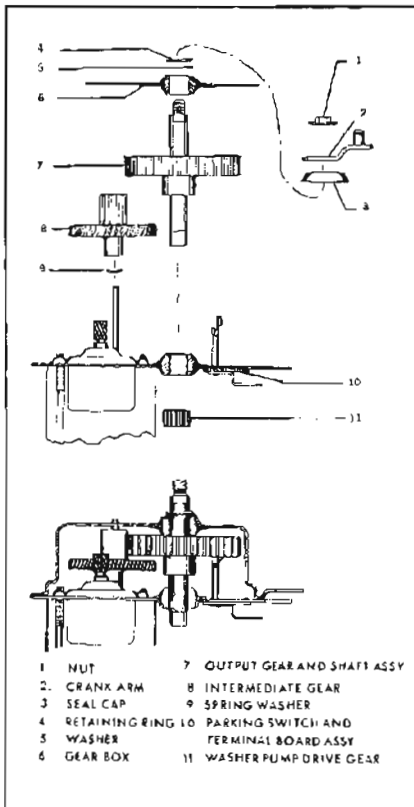

Figure 10-79—Gear Box Assembly
5. Remove output gear and shaft assembly, then slide intermediate gear and pinion assembly off shaft. (Figure 10-79).